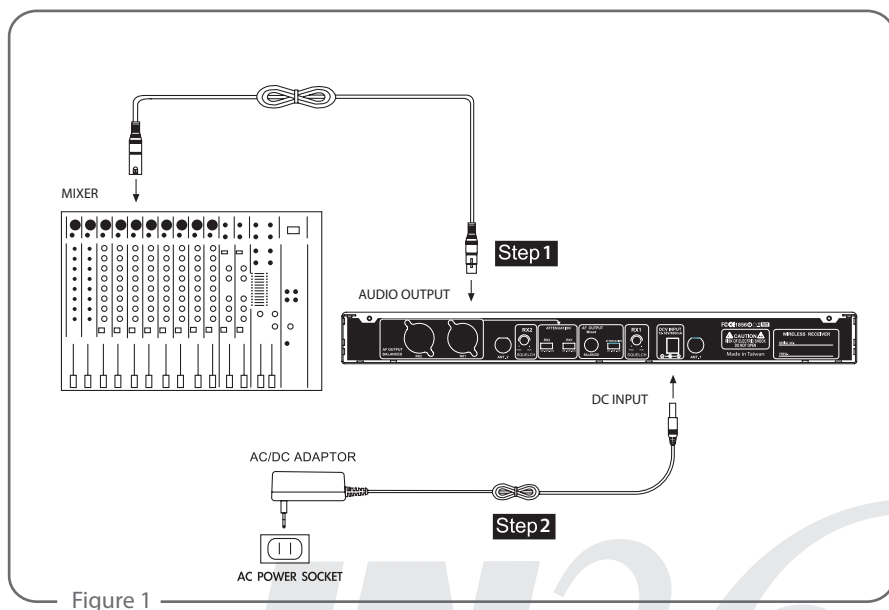

Figure 1
- (1) Connect to the subsequent unit (e.g. mixer, or amplifier)
Connect one end of a proper AF cable to the AF Output ⑩ or Balanced XLR Output socket ⑪, then plug another end to the “MIC IN” input socket of a mixer or a amplifier (Step 1 for Figure 1)
- (2) Connect the power supply unit
Plug in one end of AC/DC adaptor cable ⑥ to Power Supply Jack ⑧ in the rear panel of receiver, and plug another end into an AC outlet (Step 2 for Figure 1)